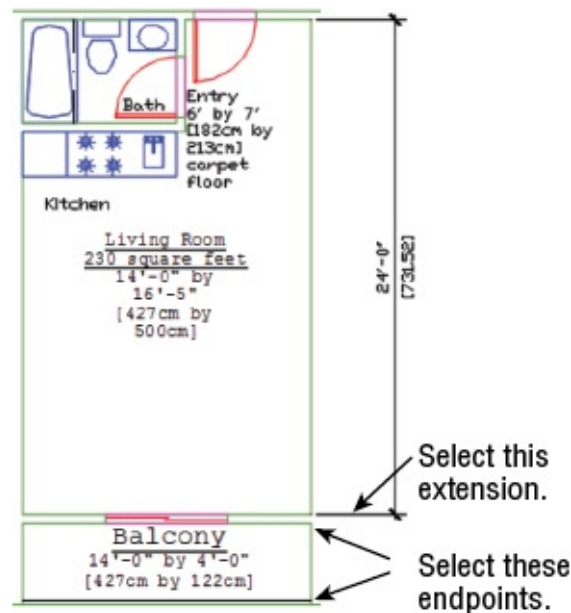

FIGURE 11.34 Select these endpoints to continue the dimension.
8. Use the Endpoint osnap to select the upper-right corner of the balcony (see Figure 11.34). Another dimension is added.
9. Use the Endpoint osnap to select the lower-right corner of the balcony (see Figure 11.34).